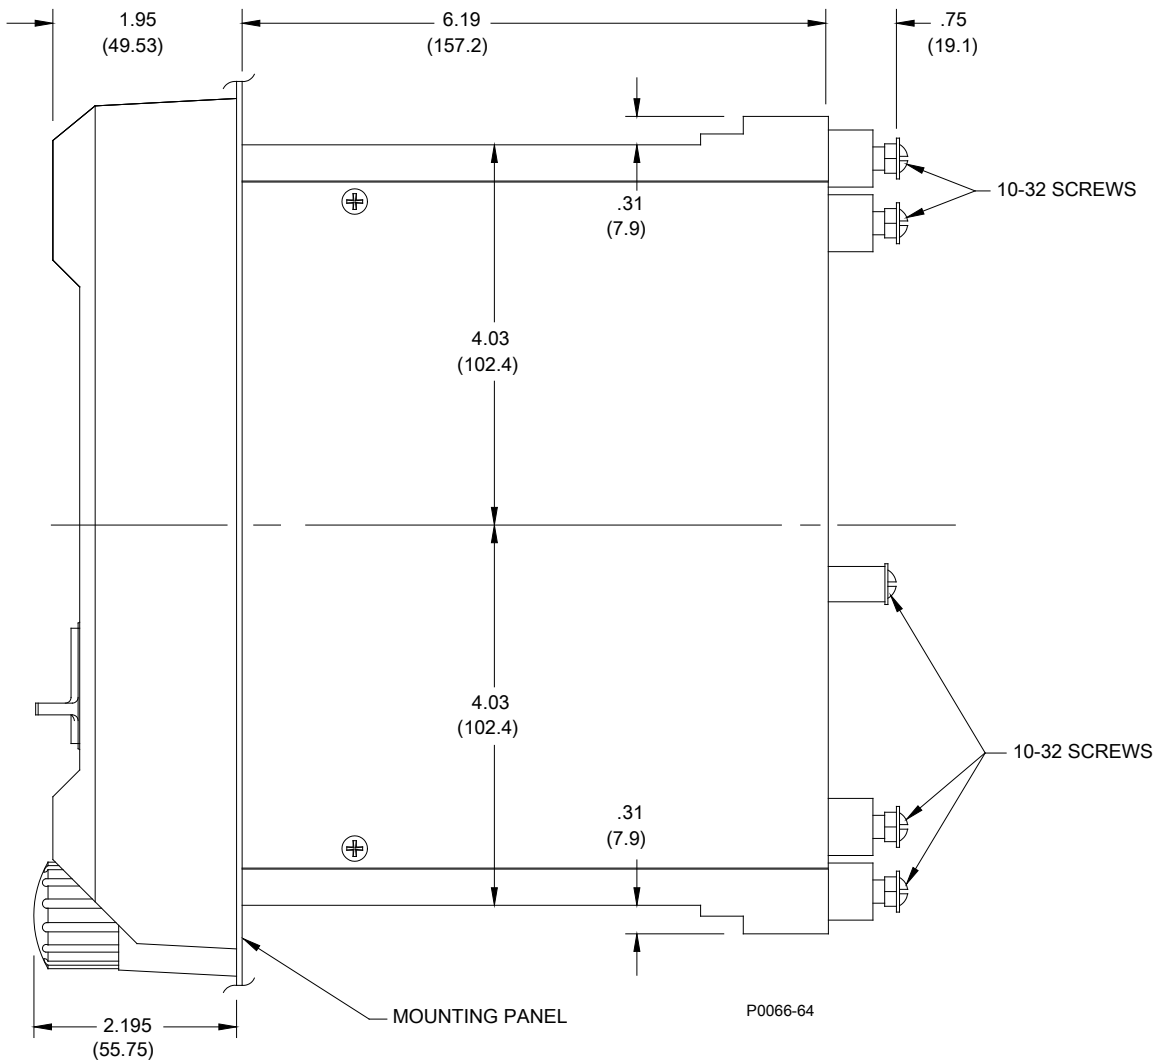

Figure 4-3. S1 Case Dimensions, Side View, Double Ended, Semi-Flush Mount
- Figure 4-3: S1 Case Dimensions, Side View, Double Ended, Semi-Flush Mount